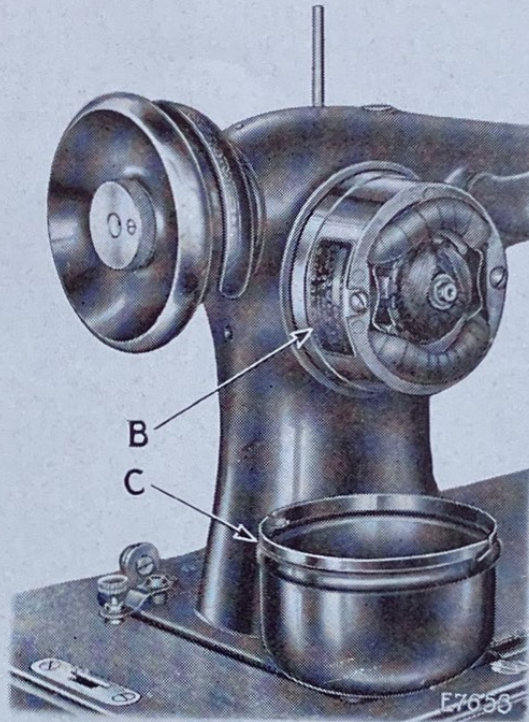

FIG. 2. MOTOR COVER REMOVED
2. What is the voltage? The voltage stamped on the motor name plate (B, Figs. 2 and 3) must correspond to that of the circuit to which the motor is to be connected.
Turn the motor cover (C, Fig. 2) over toward the balance wheel and pull it outwardly to remove it, thus exposing the motor name plate (B, Fig. 2).
Remove the motor cover (C, Fig. 2) as instructed on the preceding page.